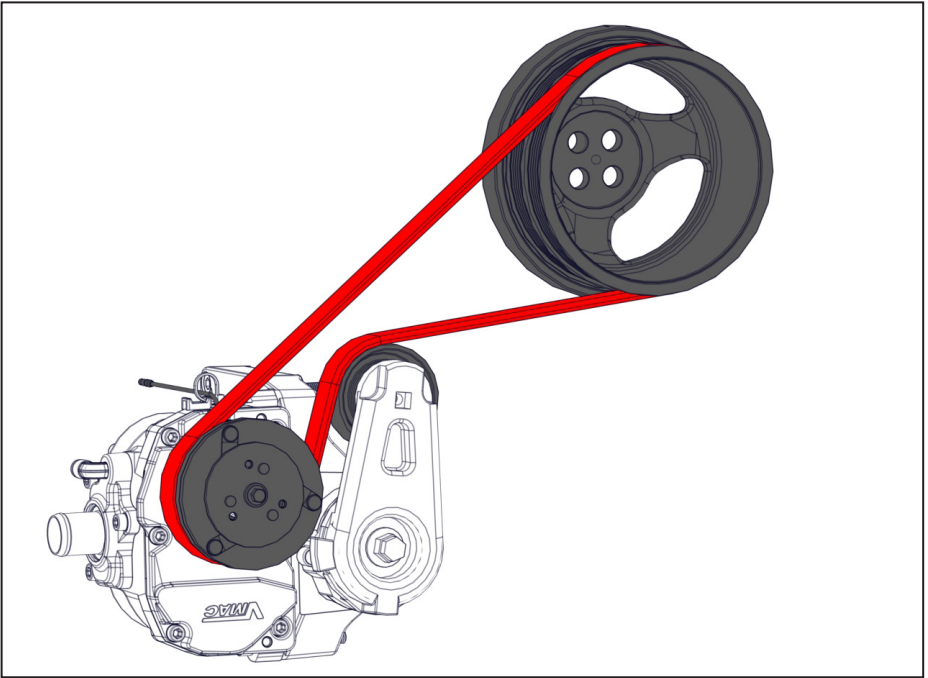

Figure 15 — VMAc belt routing
- Remove the shipping pin in the tensioner to tension to the belt (Figure 15).